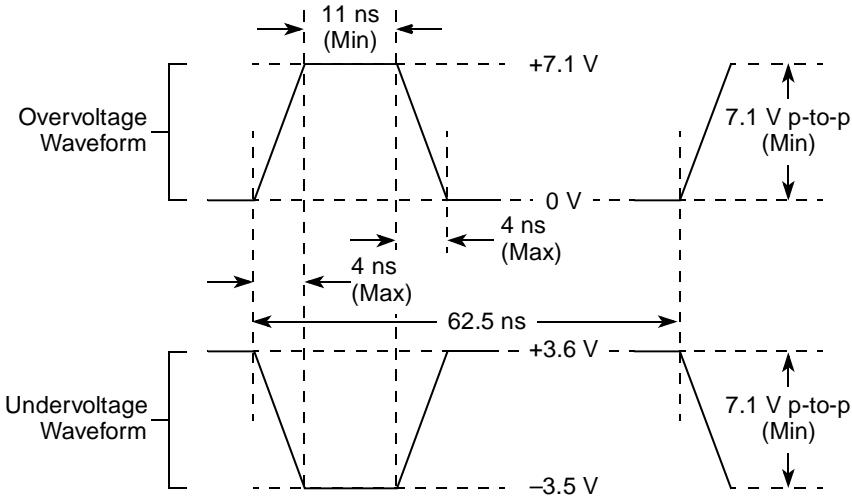

Figure 3. Maximum AC Waveforms on PCI Interface for 3.3-V Signaling
- ⁶ O V_{IN} on the PCI interface can overshoot/undershoot according to the PCI Electrical Specification for 3.3-V operation, as shown in Figure 3.
Figure 3 shows the undershoot and overshoot voltage of the PCI interface of the MPC8347E for the 3.3-V signals, respectively.